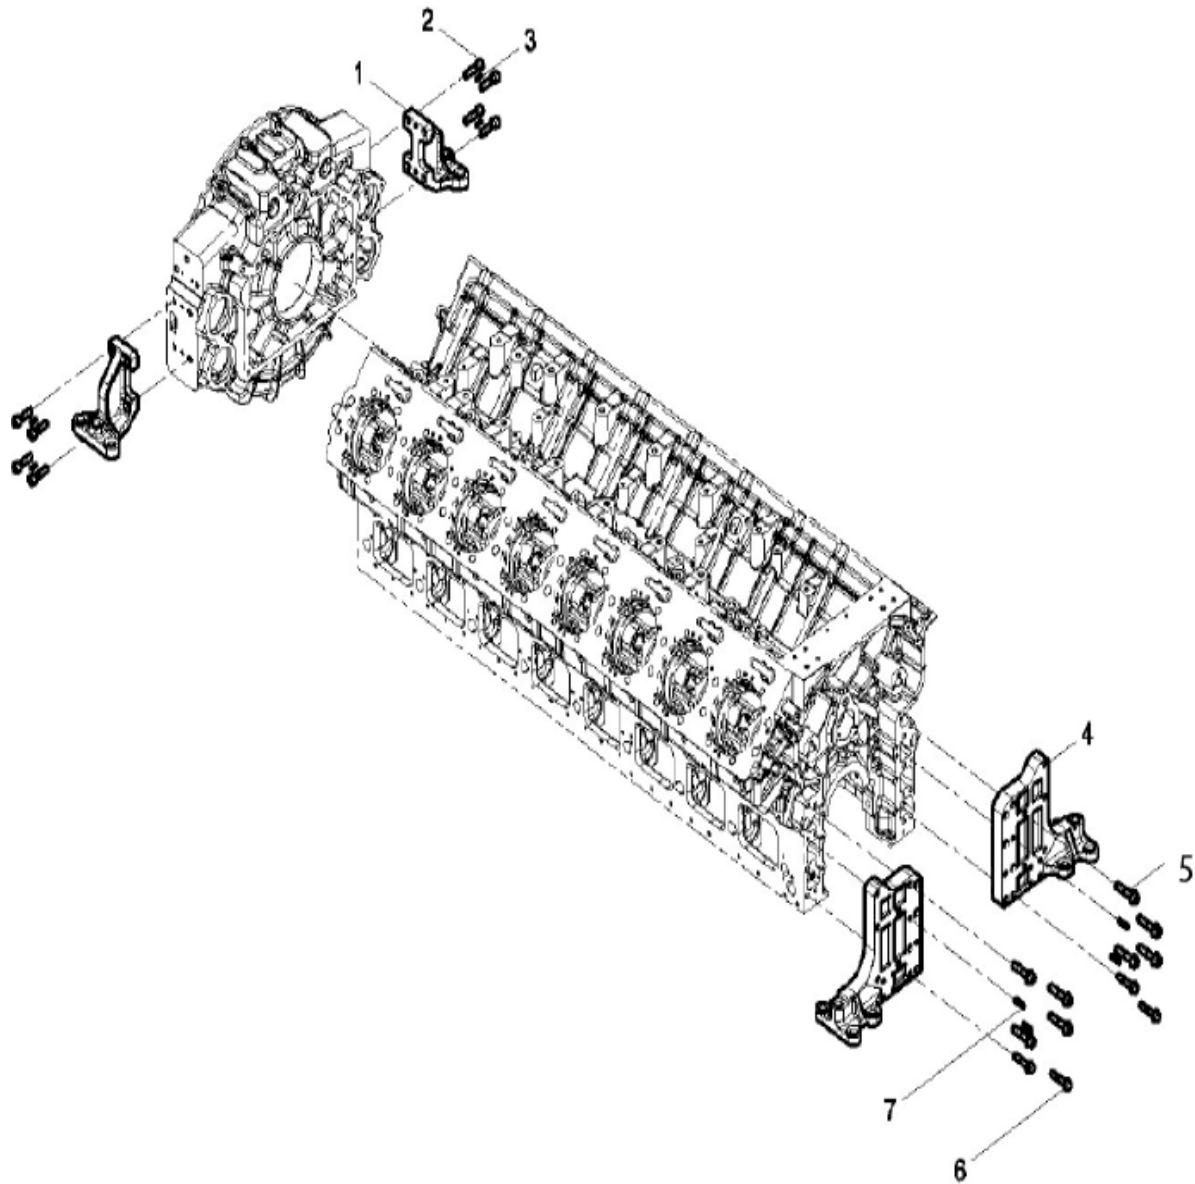

Figure 8. Engine Bracket Assembly
1. Loosen and remove bolts (Figure 8, Items 2, 5 and 6).
2. Remove engine mounts (Figure 8, Item 1 and 5).
5. Insert and tighten bolts (Figure 8, Items 2, 5 and 6).